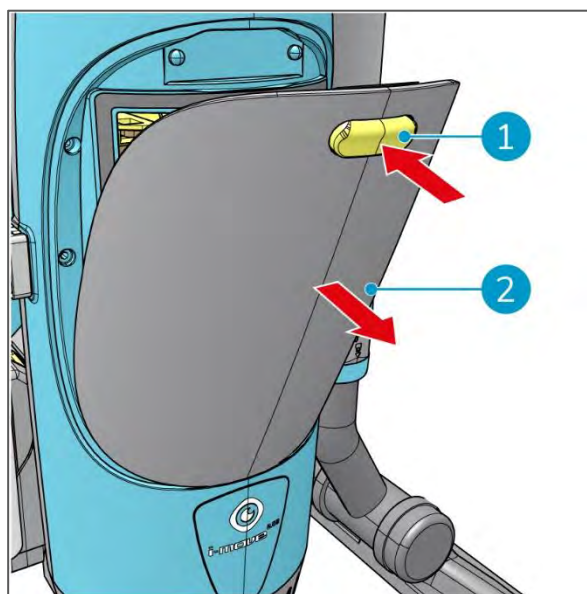

Figure 8
2. Push the yellow button (Figure 8, pos 1) to unlock the hatch.
3. Remove the hatch (Figure 8, pos 2).
9. Replace the hatch (Figure 8, pos 2), press in firmly until it clicks.